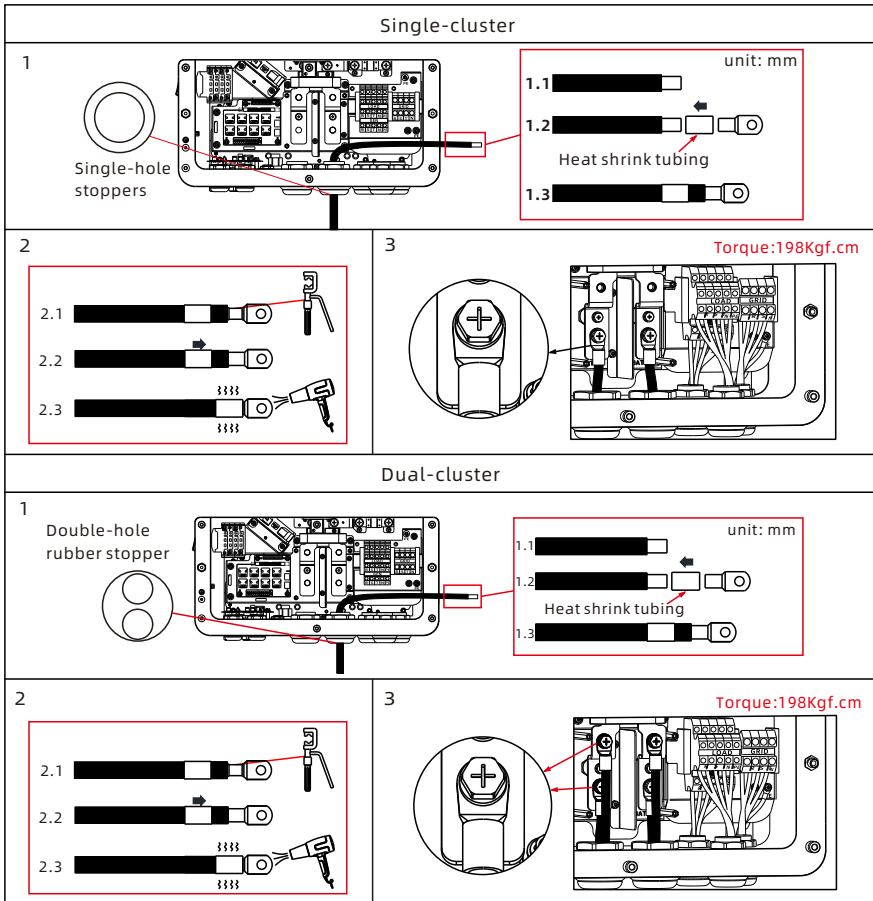

Fig 6.14 Step-by-step diagram of battery terminal wiring
3. Connect the crimping terminal of the battery cable to the battery input terminal and lock it using M8 screws, as shown in Fig 6.14.